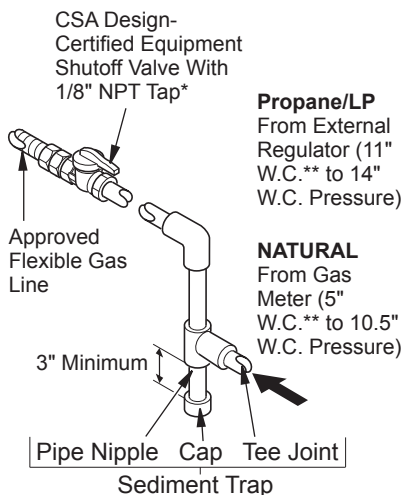

Figure 8 - Gas Connection
C. For mantel clearances, see Figure 8 on page 13.
Installation must include an equipment shutoff valve, union and plugged 1/8" NPT tap. Locate NPT tap within reach for test gauge hook up. NPT tap must be upstream from heater (see Figure 8, page 13).
We recommend that you install a sediment trap in supply line as shown in Figure 8. Locate sediment trap where it is within reach for cleaning. Install in piping system between fuel supply and heater. Locate sediment trap where trapped matter is not likely to freeze. A sediment trap traps moisture and contaminants. This keeps them from going into fireplace controls. If sediment trap is not installed or is installed wrong, fireplace may not run properly.